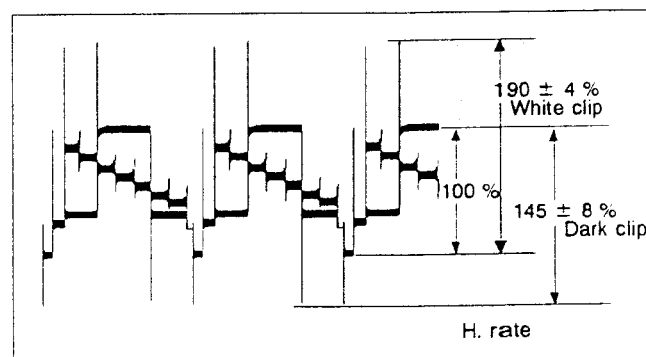

Fig. 3-1-9 White clip
- 3) If necessary, replace R45 with the variable chip resistor 4822 101 10851 and adjust it 190 ± 4 % white clip and 145 ± 8 % dark clip, as in Fig. 3-1-9.